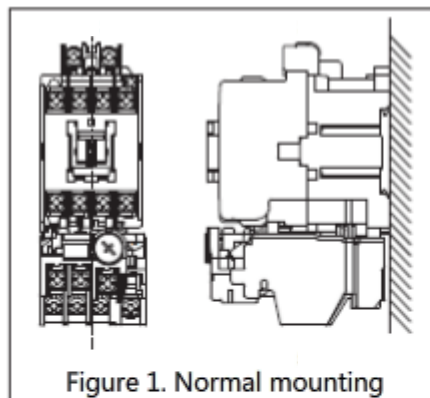
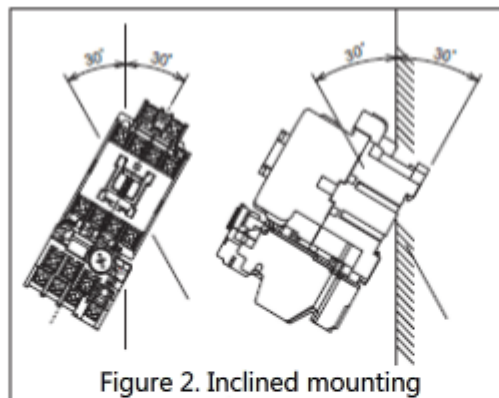

Figure 1. Normal mounting
Figure 2. Inclined mounting
2. Normally, mount the equipment vertically and perpendicularly to the surface, as shown in figure 1, but it is allowable to mount it inclined at up to 30 degrees in each direction (figure 2).